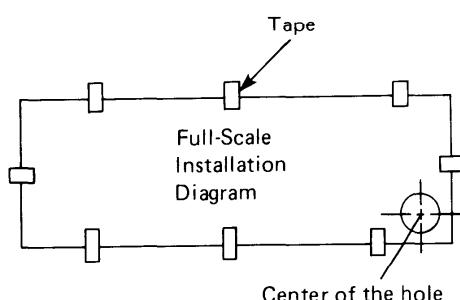

Fig. 6
a) Tape full scale installation diagram on wall at location selected, make sure unit is horizontal, use a level or tape measure to measure down from ceiling. Fig. 6